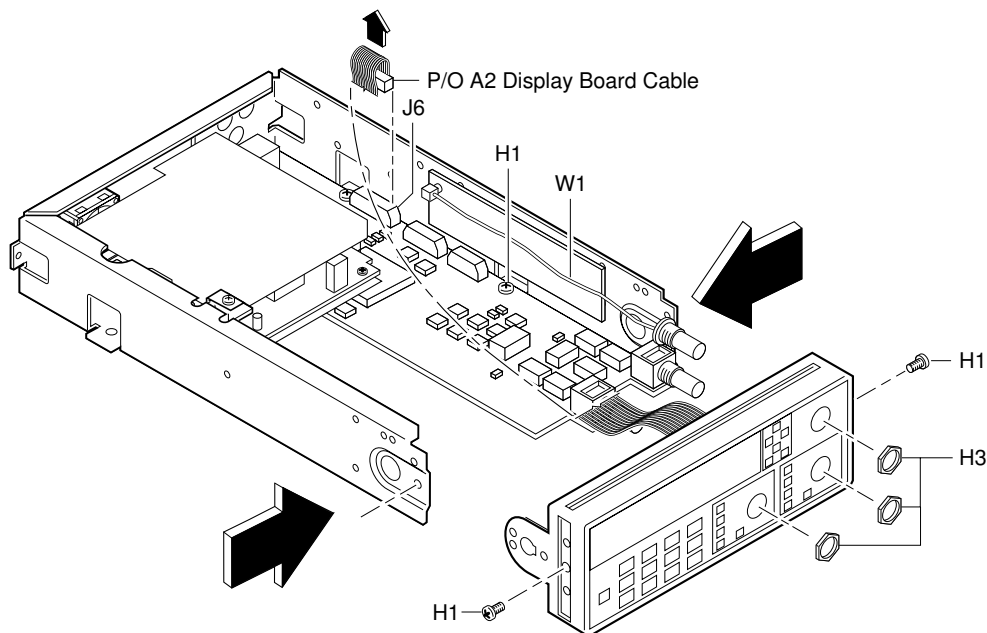

Figure 3-5. Front Bezel Removal
**4 Disconnect the front bezel flat-ribbon cable (which is actually A2 Display Board’s cable) from J6 of A1 Motherboard Assembly as shown in Figure 3-5.**
- 5 Remove the BNC nuts (H3), shown in Figure 3-5, from the front panel using the 14-mm deep-socket spin tight.
- 6 For Counters with the optional 1.5 GHz or 3.0 GHz channel (Option 015 or 030), pull cable W1 out of the front bezel as shown in Figure 3-5. For the optional 5.0 or 12.4 GHz channel, remove knurled nut.
- 7 Remove the two screws (H1), located in the sides of the front bezel, using the TORX 15 screwdriver as shown in Figure 3-5.**
- 8 Loosen the screw (H1), shown in Figure 3-5, that helps secure A1 Motherboard Assembly to the chassis to make step 9 (the following step) easier.**